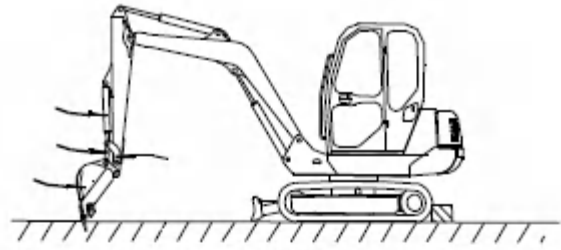

Fig. 1
- 1) First remove the bucket, bucket cylinder, connecting rod, rocker or other accessories (as shown by the arrow in Fig. 1);